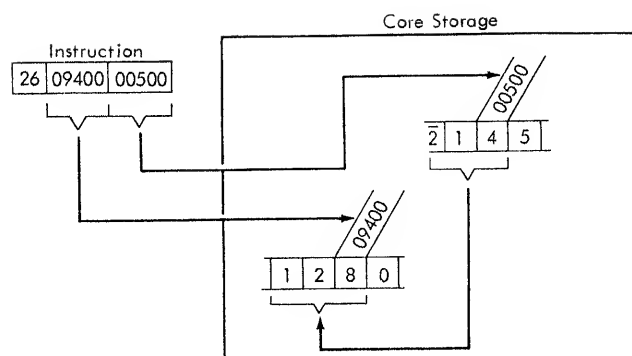

Figure 39. Transmit Field - Data Flow
In Figure 39, the data ( $\bar{2}14$ ) in the field defined by the Q address (00500) replaces the data (128) in the field defined by the P address (09400). The data at the Q address is not changed.